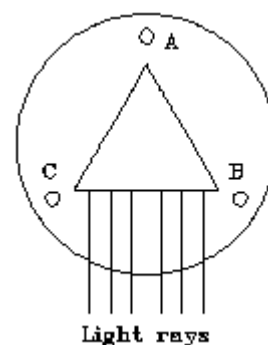

Fig 6 Step B.
(B) Rotate the prism 180 on the table, then rotate the table 180. It should now look like Fig. 6. View the reflected image from the same face as before (that face is still parallel to the same two leveling screws). Bring the crosshairs *halfway* into alignment with the telescope screw, then the rest of the way with the same prism table screw as before (screw A).